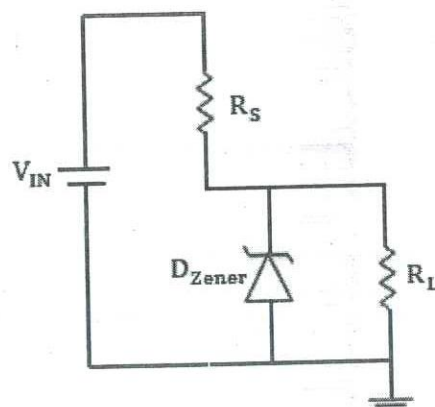

Figure Q2.2: Zener regulator circuit.
- c) Calculate the maximum and minimum Zener currents in the voltage regulator circuit given below in Figure Q2.2.